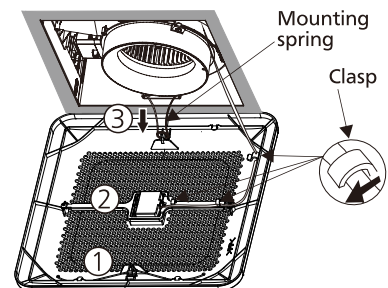

Fig.18
3.Remove the other mounting spring. (Fig.18)
4.For FV-0811RFM1: Remove one mounting spring (Fig.18①), remove the lead wire of sensor unit from the clasps(three position)(Fig.18②), remove the sensor unit from the grille, then remove the other mounting spring.(Fig.18③)